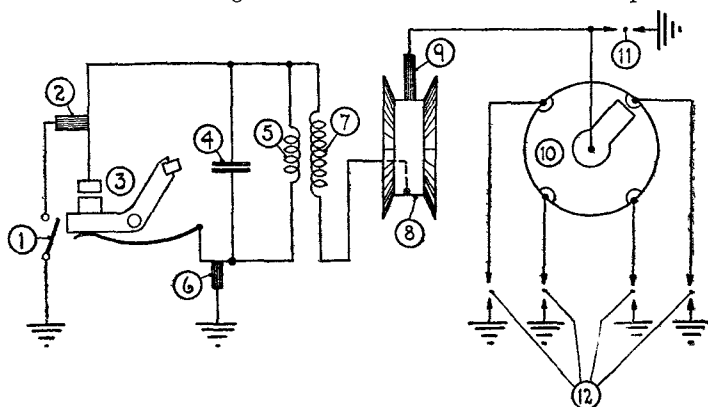
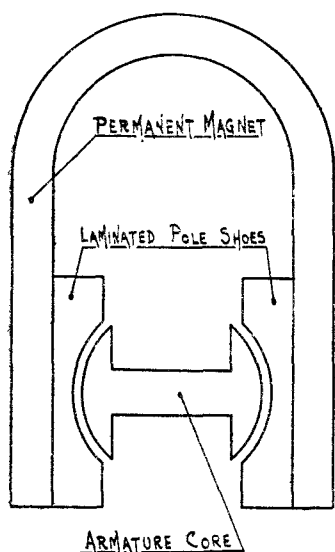

FIG. 1.—Magneto circuit—electrical.
FIG. 2.—Magneto circuit—magnetic.
2. **Magnetos.**—(i) The spark which ignites the mixture occurs at the sparking plug, the high voltage required being produced by a magneto. Fig. 1 shows the electrical circuit of the “rotating armature” type magneto, and fig. 2 shows its magnetic circuit. The primary winding, consisting of roughly 200 turns of enamelled copper wire (about 26 g.), and the secondary winding, consisting of several thousand turns of very fine enamelled copper wire (about 40 g.), are both wound upon the laminated iron armature core (which is of the special section shown in fig. 2), with suitable insulation and binding. The armature core is fitted with end-plates carrying